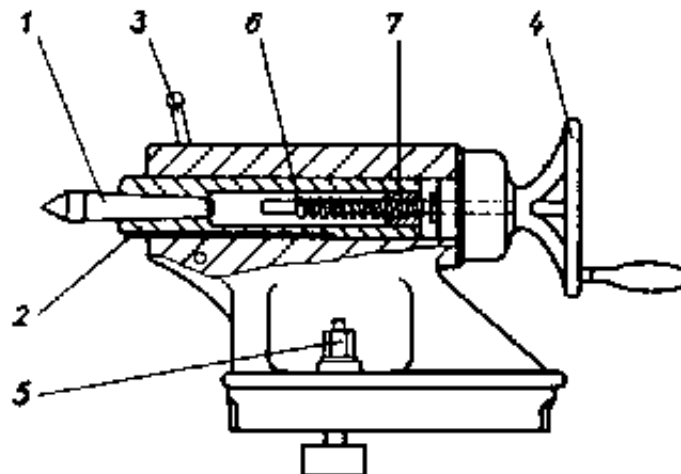

Figure 22 Tailstock. sectional view
- As counter-supports the tailstock with centre (Fig. 22) and steady rest are used.